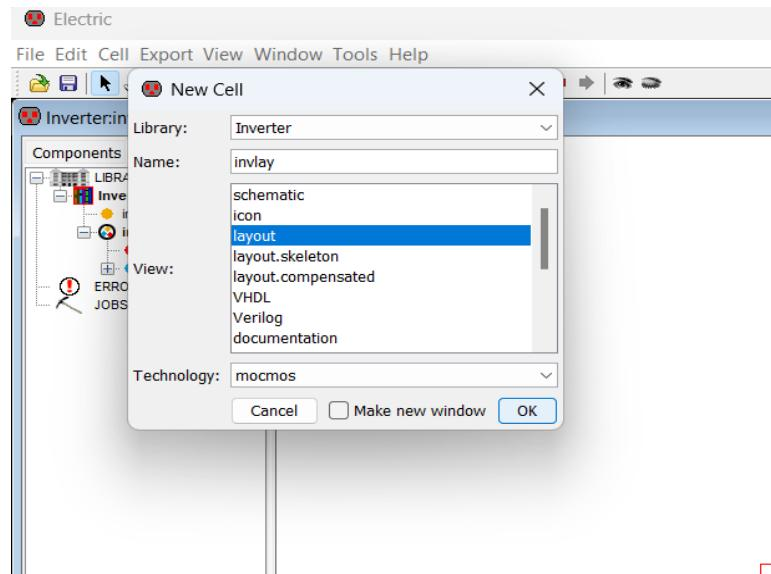

Figure 1.33: Selecting the schematic cell.
1. To make a layout cell click on: Cell >> New Cell. Select the layout and name it, for example, invlay(lay) then click OK. (see Figure 1.33).